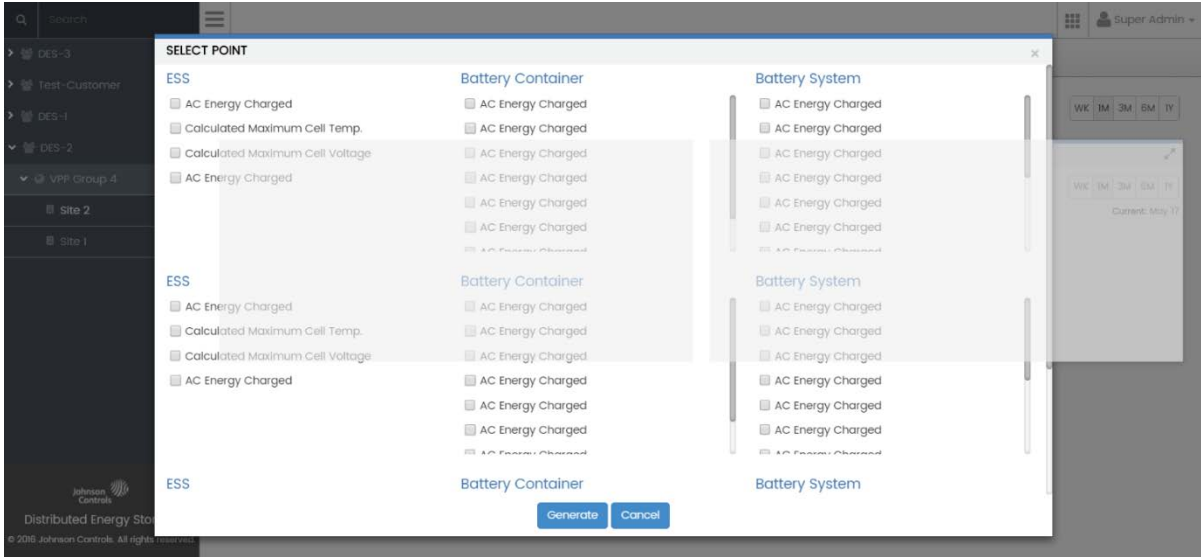

Figure 9: DES Trend screen
- Overview Screen** – Provides an executive summary of the aggregated data within a VPP or a specific site. Energy, power, state of health, alarm and key performance indicator trends are displayed and updated in real time. Figure 9 displays the DES Overview screen.